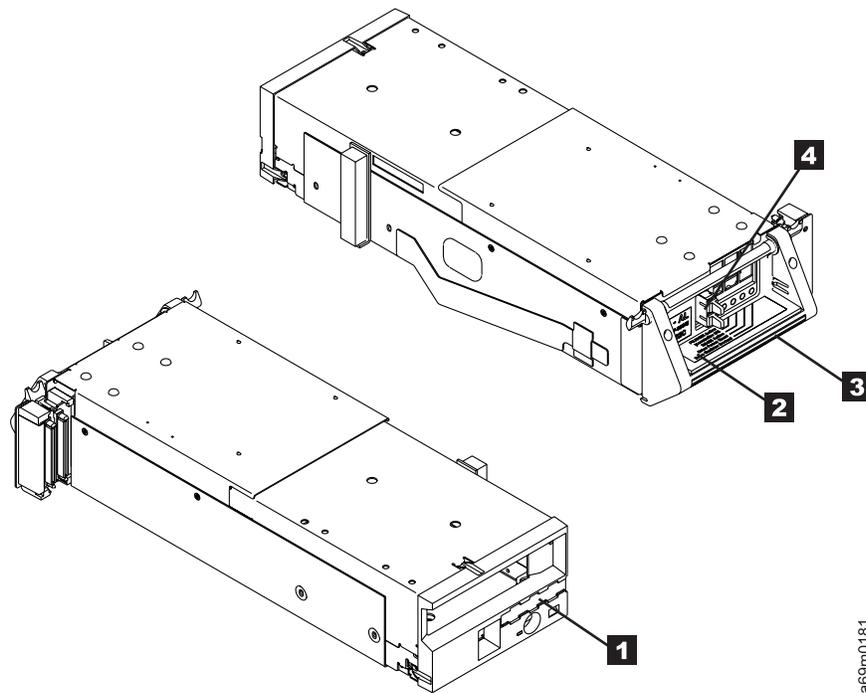

Figure 78. Removing and replacing a drive canister assembly - LTO fibre channel hot swap
5. Refer to Figure 78. Unplug the fibre cable.
- If a logical library label (see **4** in Figure 78 on page 353) is attached to the old drive, remove it from the old drive and attach it to the new drive.